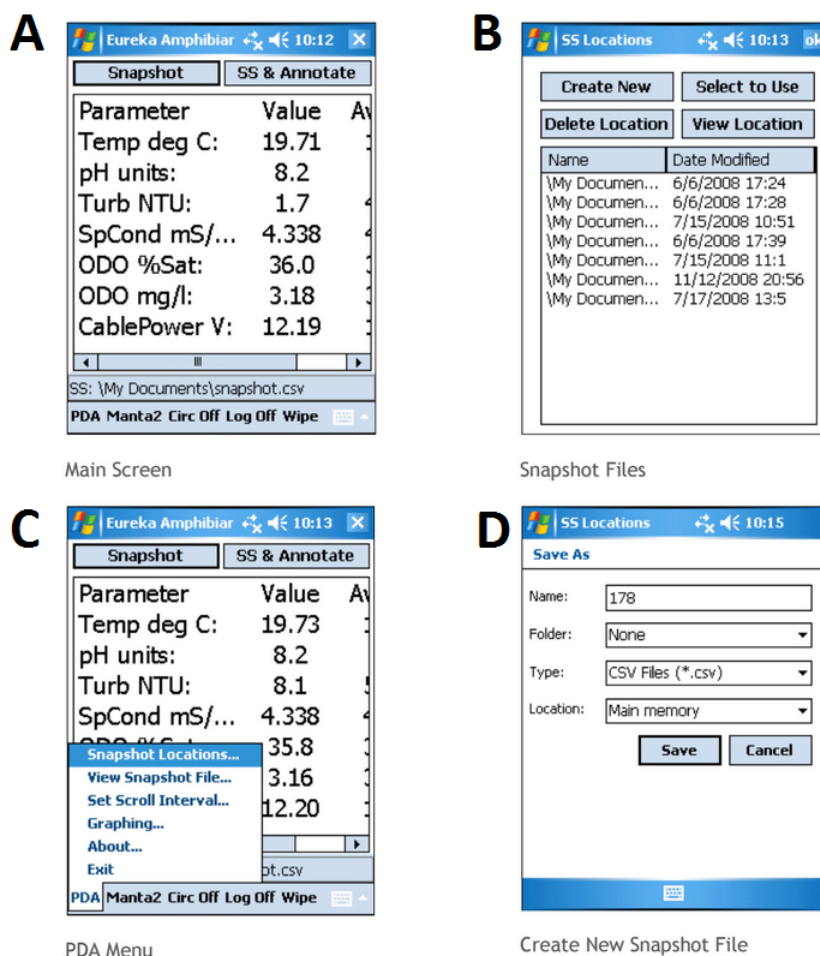

Figure 1: Amphibian Working Screens
**10.1** Connecting the Manta. Connect and power on the Manta to the Amphibian Portable PC as before. Adjust screen brightness using short-cut buttons **arrow up + P3** and **arrow up + P4**. When you open the Amp\_2.2\_6, the Main screen will appear(A) (Figure 1). This is where you will see data readings. To log, or store, one line of data take a ”snapshot” with the top left button (A). To locate snapshots, open the PDA menu in the bottom left corner and select ”snapshot locations”(B). In the SS locations screen (C) you can edit your files or create a new one. When creating a new file (D), annotate using the guidelines in 10.5.To see data presented graphically, open the PDA menu and select ”graphing” (B). To exit the program, again open the PDA menu and select ”Exit.”